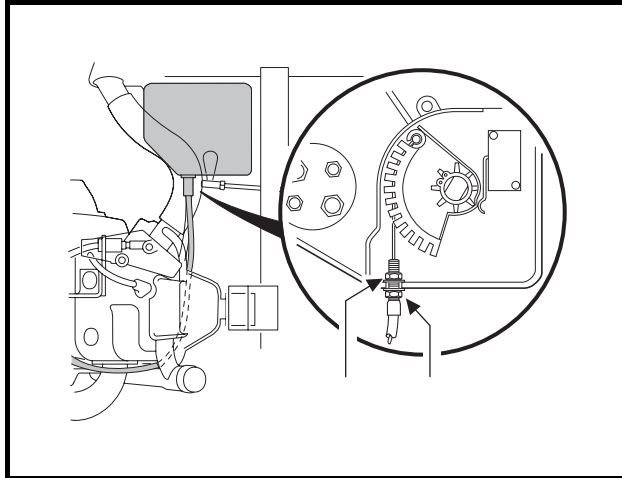

Figure 19-13 Throttle Cable and Retaining Nuts (Top View)
- 4.5. Remove the cover from the electrical component box. Then loosen the hardware securing the accelerator cable to the box. Disconnect the cable from the actuator cam and remove it from the box (**Figure 19-13, Page 19-8**).